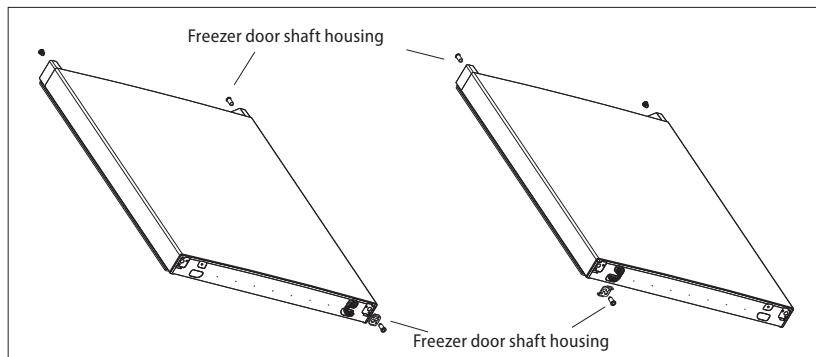

Fig. 5
- Remove the shaft housing for fixing the middle hinge of the refrigerator from the door of the freezer and place it on the other side of the door (Fig. 5).
11. Remove the plastic stop, the metal holder, and the housing for fixing the bottom hinge of the freezer from the bottom edge of the freezer door as shown in Fig. 5.